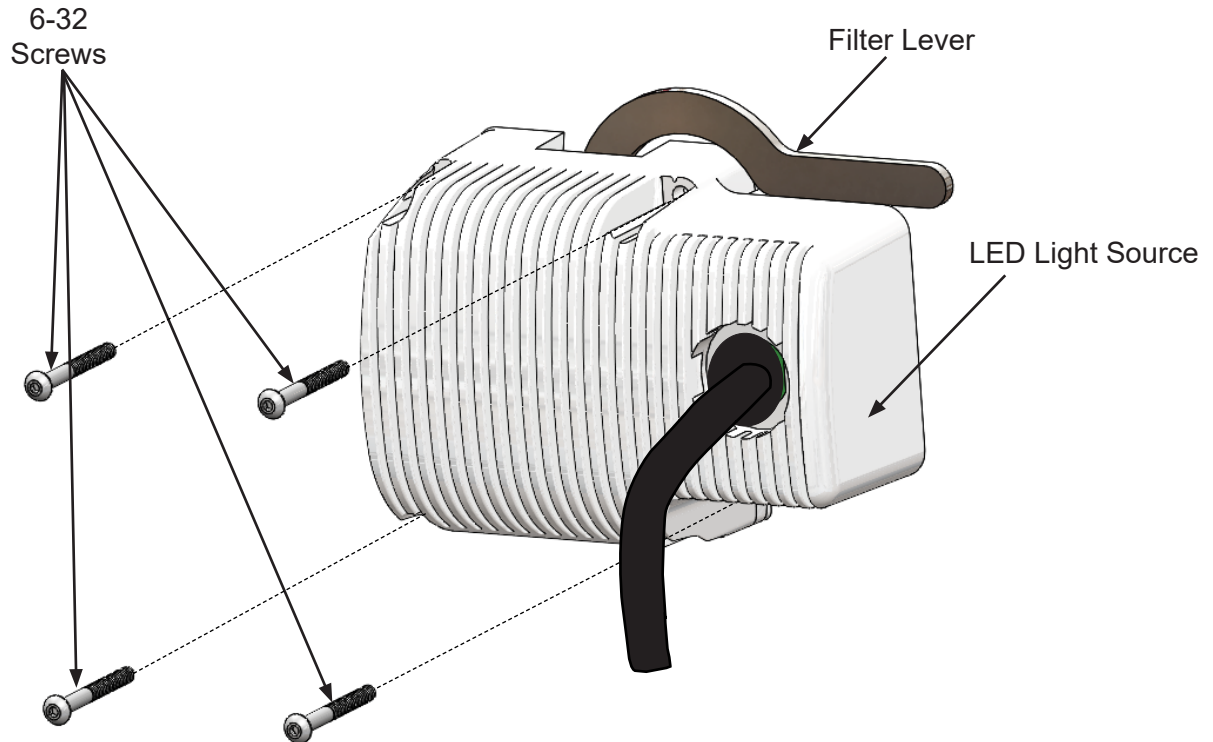

Figure 4-4 Installing the LED Light Source
2. Connect the LED to the microscope body using the 5/64" allen wrench to install the four (4) 6-32 button head screws (provided). **See Figure 4-4**